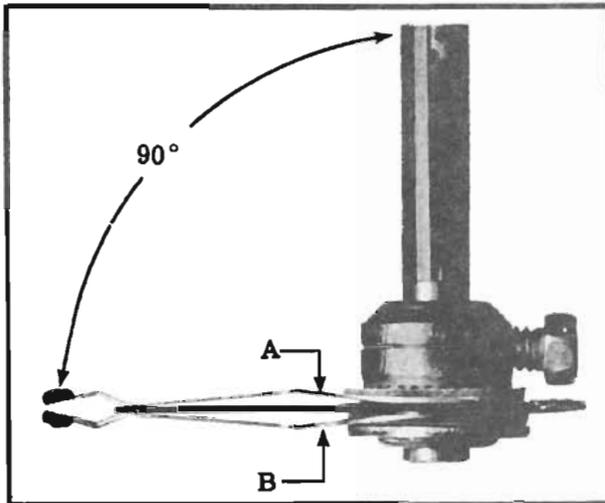

Figure 7. Properly Formed Wiper Springs are Shown Above.
3.06 Check that the wipers are approximately at a 90 degree angle to the shaft (Fig. 7). If necessary, place adjuster at A or B and adjust up or down.